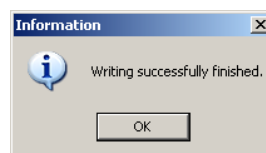

Figure 5-58: Successful creation of Deko3000 Drive Image Restore DVD
14. When “Writing Successfully Finished” (Figure 5-58) is displayed, the DVD can be removed.